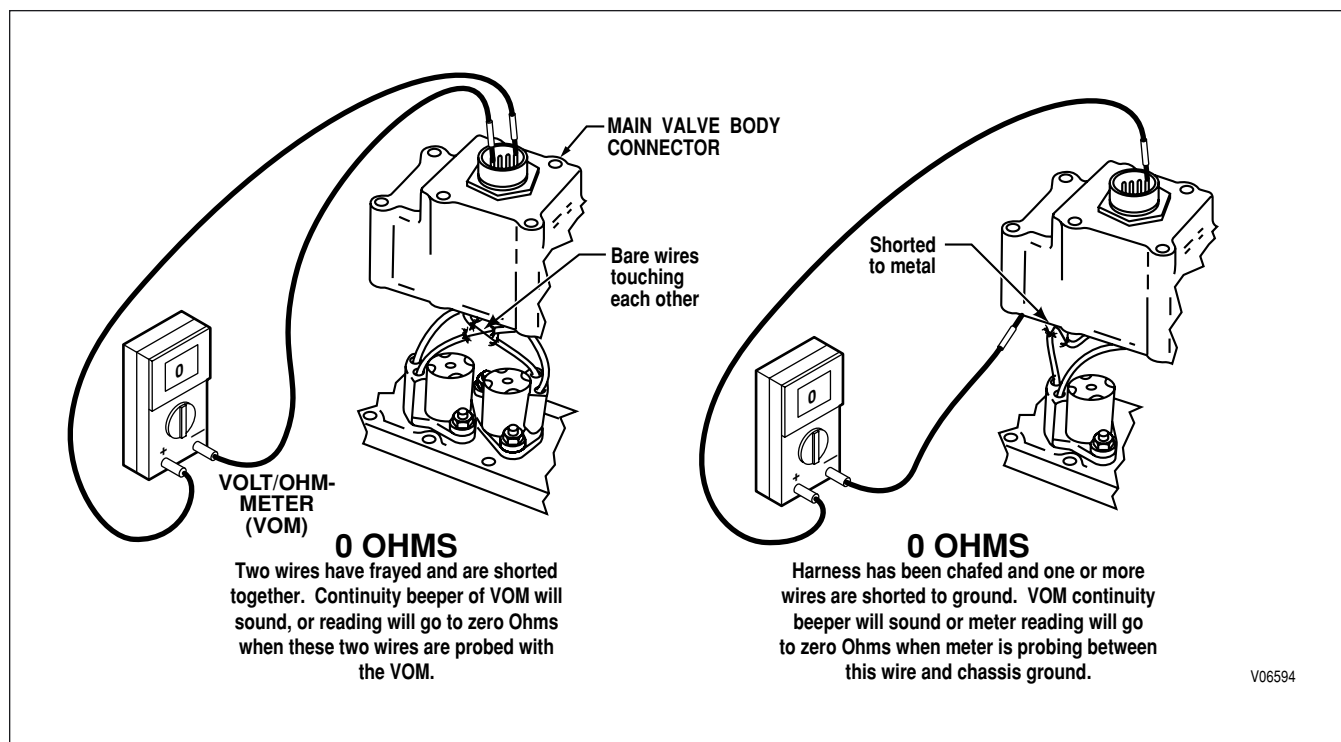

Figure 3-4. Shorts Between Wires or to Ground
- b. If the resistance test is good, test the harness for shorts between wires and to ground by performing the following (refer to Figure 3-4):
- (1) At the transmission connector, touch one probe of the VOM to one wire of the circuit being tested and touch the other probe to each terminal in the connector and to chassis ground and the transmission main housing. Do this for both wires in the circuit being tested.
- (2) If the VOM shows zero to low resistance, or the continuity beeper sounds, there is a short between the two points being probed, wire-to-wire or wire-to-ground. An indication of a short may be caused by a splice to the wire being tested. Consult the wiring diagram in Appendix G for splice locations. If the short is not a splice, then isolate and repair the short.